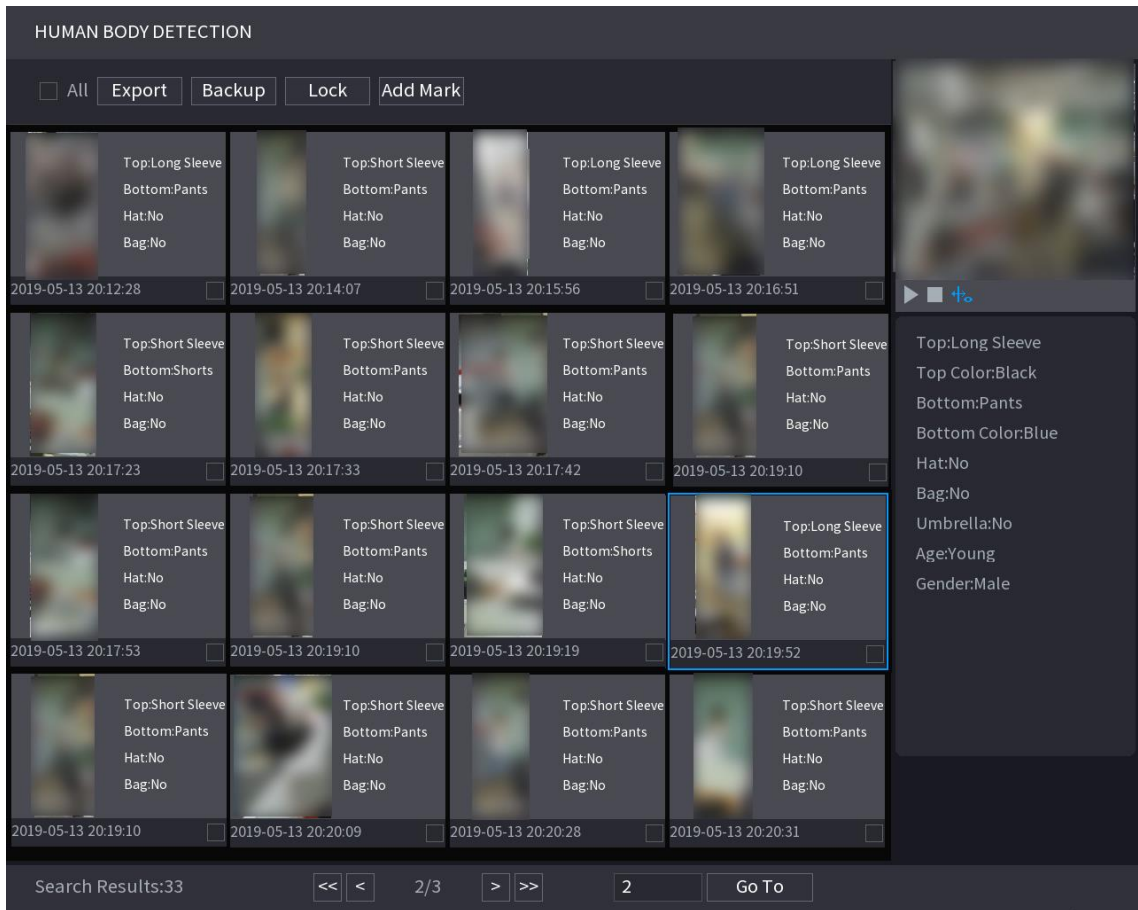

Figure 5-174
- If you only selected **Human Body Detection** and did not select **Face Detect** in "5.11.1.4.1 Configuring Video Structuring", there will be only human body features displayed in the results. See Figure 5-174.